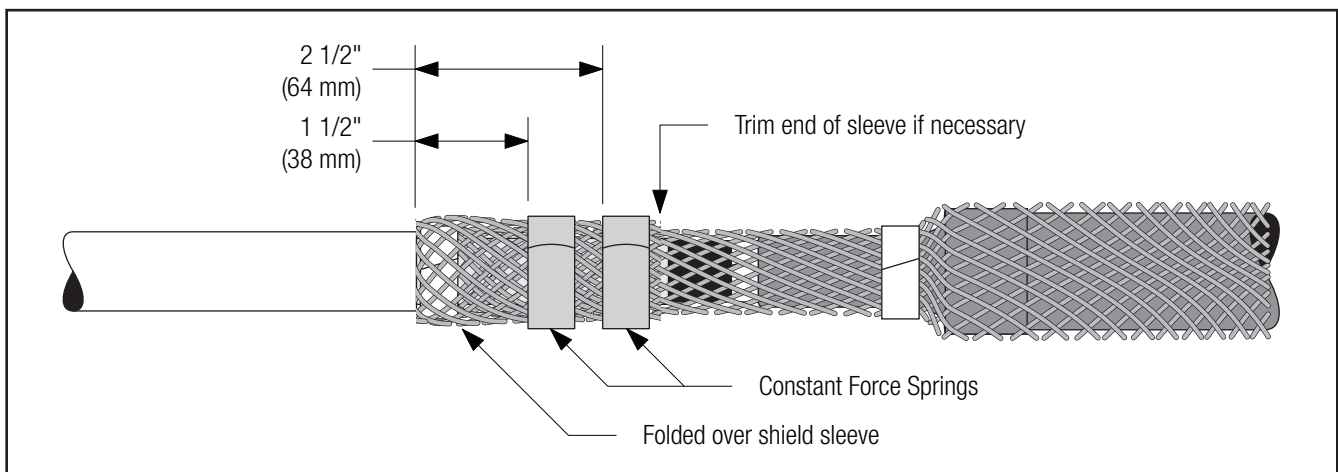

Figure 23
- 6.2.2 Bend ends of sleeve back over vinyl tape and secure with constant force springs at 1 1/2" (38 mm) and 2 1/2" (64 mm) from jacket end. Trim off excess sleeve 1/2" (13 mm) from springs, if necessary (*Figure 23*).